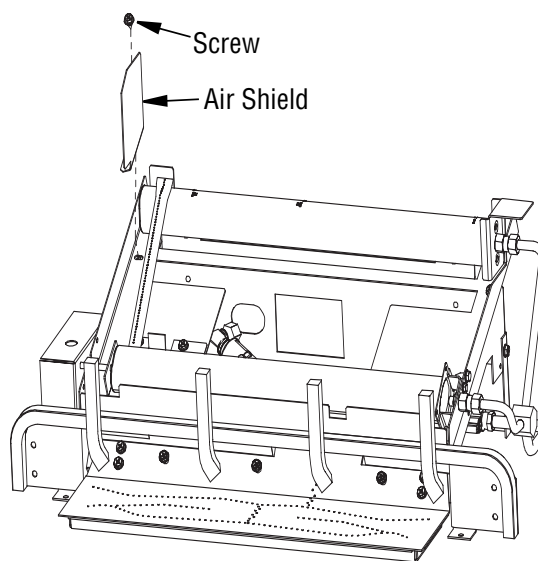

Figure 37 - Removing Air Shield
- Before placing any logs on the chassis you will need to remove the Air Shield located on the left side near the rear burner as shown in **Figure 37**. The Air Shield is held in place with one screw, remove the Air Shield and place the screw back into the hole in the chassis. Place the Air Shield with you owner's manual and keep.